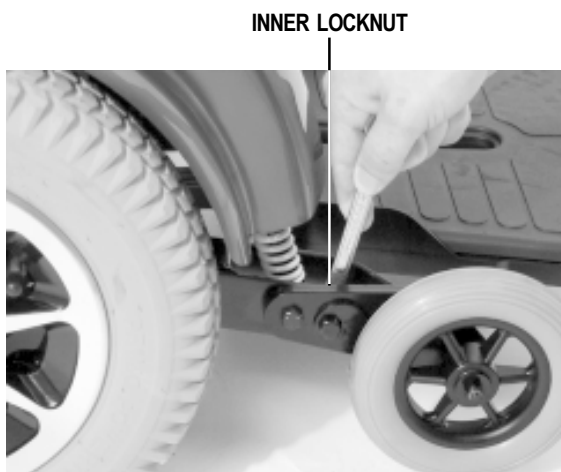

Figure 16. Anti-Tip Bracket
1. Place a wrench on the inner locknut of the anti-tip bracket located right after your shock strut. See figure 16.